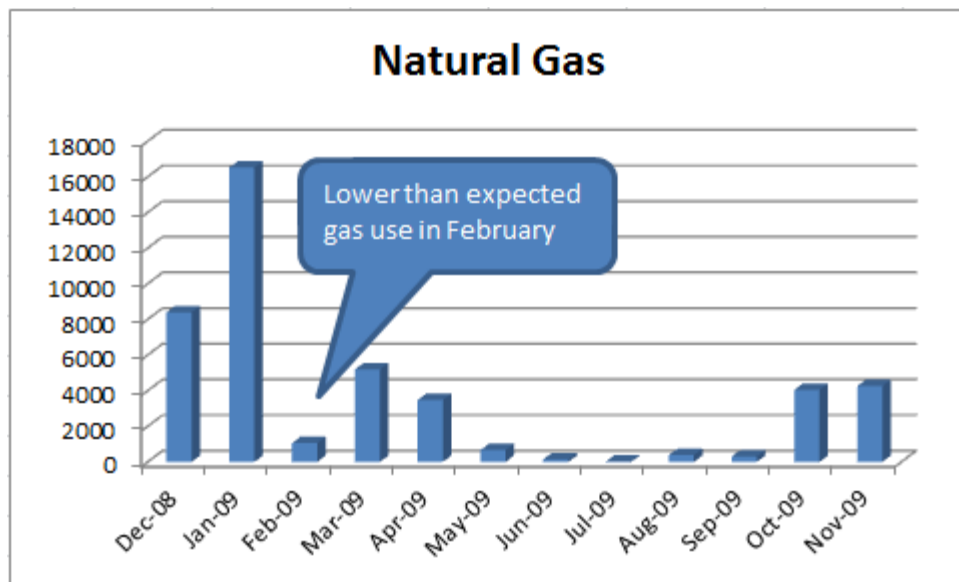

Figure 3.43. Use callouts to point out anomalies
6. Drag the small yellow diamond at the end of the callout point near the column for February. Resize and relocate the callout as needed to display the text without obscuring any of the columns. Refer to Figure 3.43.